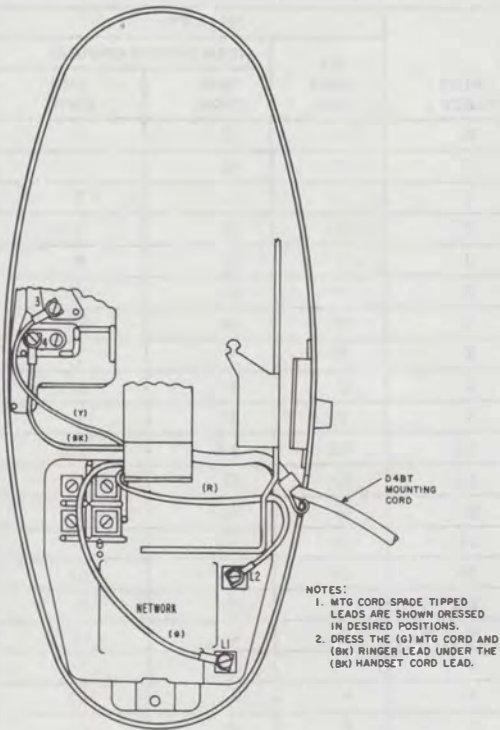

Fig. 4—Method of Terminating D4BT Mounting Cord on Sets with 4010-Type Network
1.05 Figure 4 or 5 indicates the termination of the D4BT mounting cord in sets equipped with 4010-or 4228-type networks, respectively.